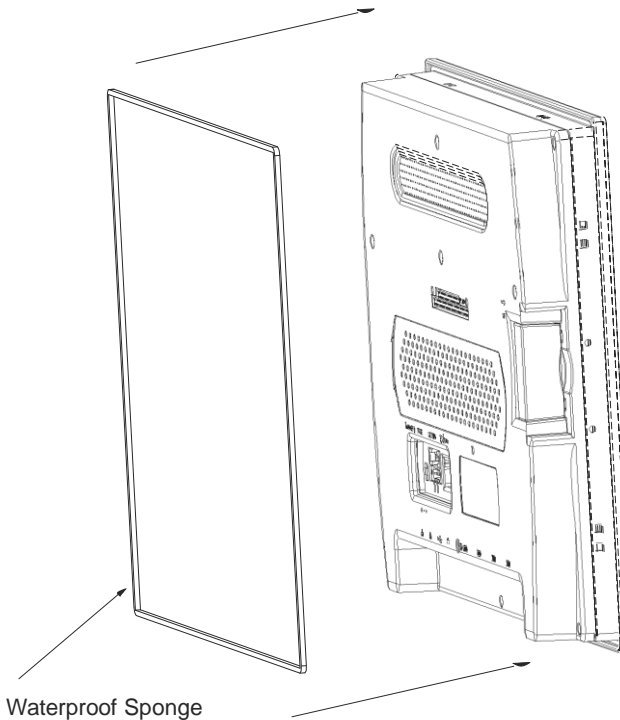

Figure 2.8: Panel Mounting_1
Step 1: There is an adhesive waterproof gasket on the front bezel. Make sure the waterproof gasket is in position before installing the 2500-VP15 on the panel opening. (Figure 2.8)